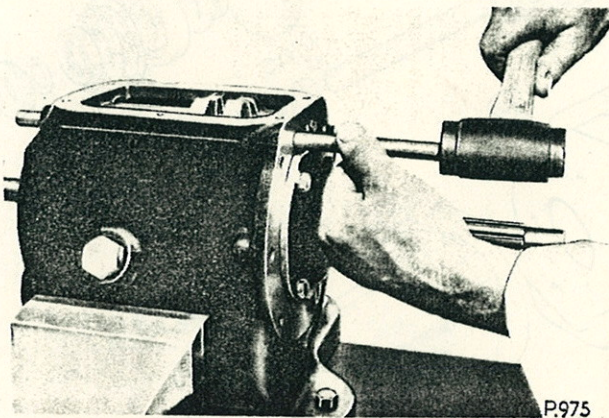

Fig. E.6. Tapping out the reverse selector shaft using the dummy shaft
10. Using one of the dummy selector shafts as detailed at the beginning of this section, tap out the reverse selector shaft (see Fig. E.6.) It is imperative that all selector shafts are tapped out from the front to the rear of the gearbox.